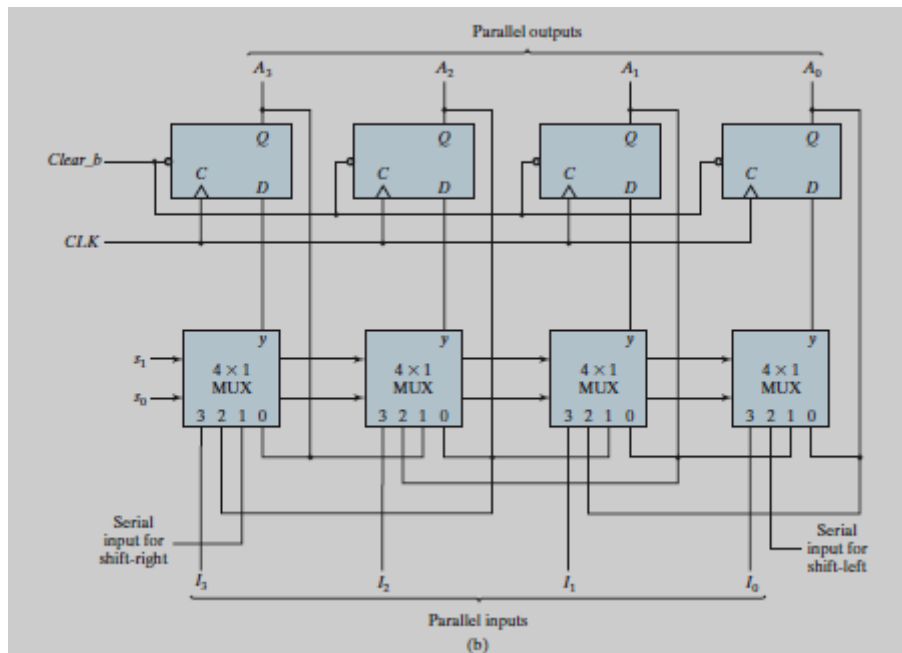

Figure 7.2 Four-bit Shift Register with Parallel Load
- As shown in Fig. 7.2, the most general shift register with parallel load has the following capabilities: